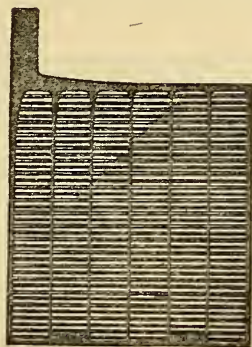

Fig. 3
19. The plates are made by pasting the active material on a grid of lead alloy (Fig. 3). The grid serves to support this active material, which dries on the grid as a porous mass, exposing a far greater amount of surface to the action of the solution than could be done if a solid strip or plate were used.